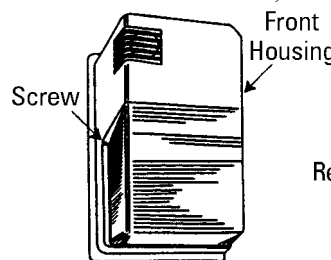

Figure 1
1. Loosen screws securing lens fixture cover and remove. (Fig. 1)